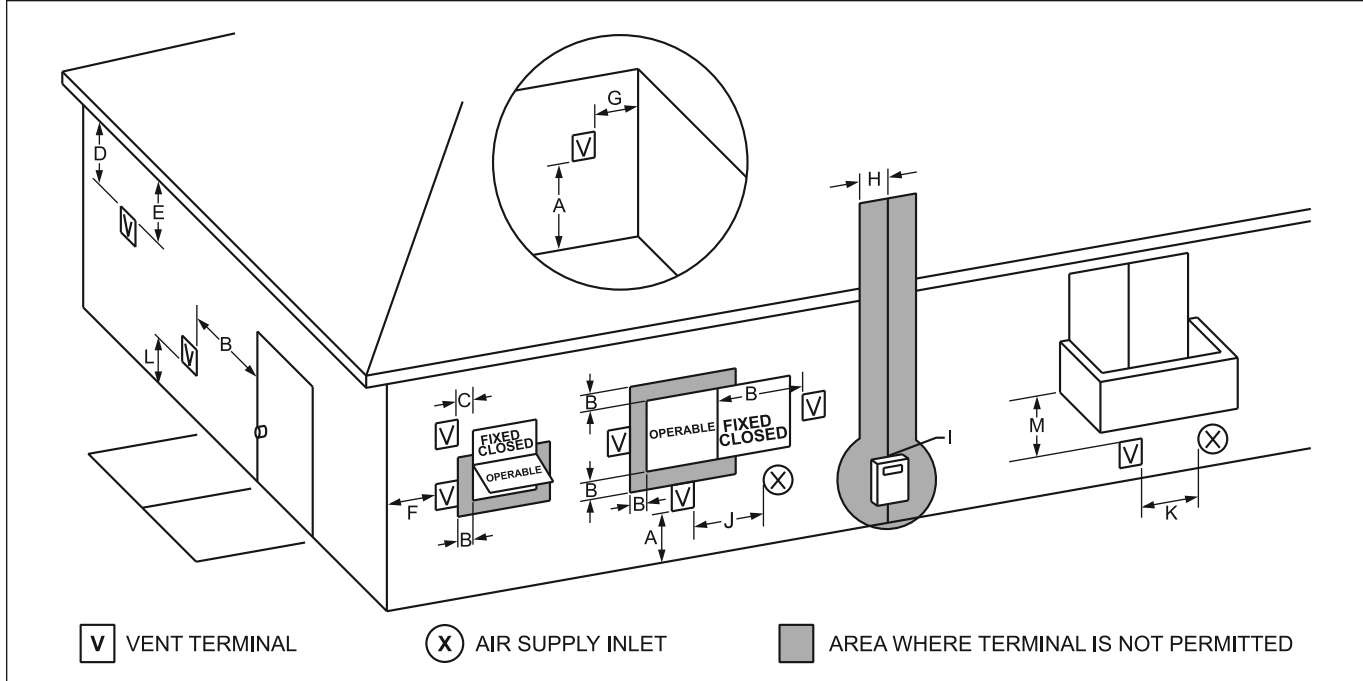

Figure 4. Combustion Air and Vent Through Side Wall.
- Figure 4 shows the requirements for mechanical vent terminal clearances for the U.S. and Canada.
4. If the Copper Brute II is side-wall vented to the same wall, locate the vent terminal at least 3 feet (0.9m) horizontally from the combustion air terminal, and locate the vent terminal at least 1 foot (0.3m) above the combustion air terminal (see Figure 4).